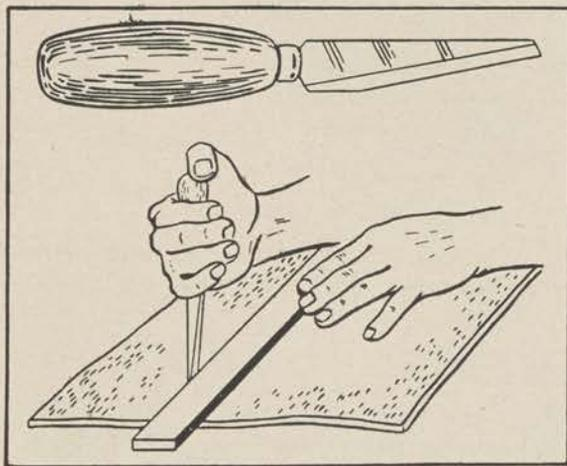

Figure 16.
a. Scissors can be used to cut light weight leathers, but they have a tendency to mar and stretch the edges of the heavier skins. It is better to cut the leather with a very sharp knife, guiding the blade on straight lines with a metal rule or square (fig. 16).